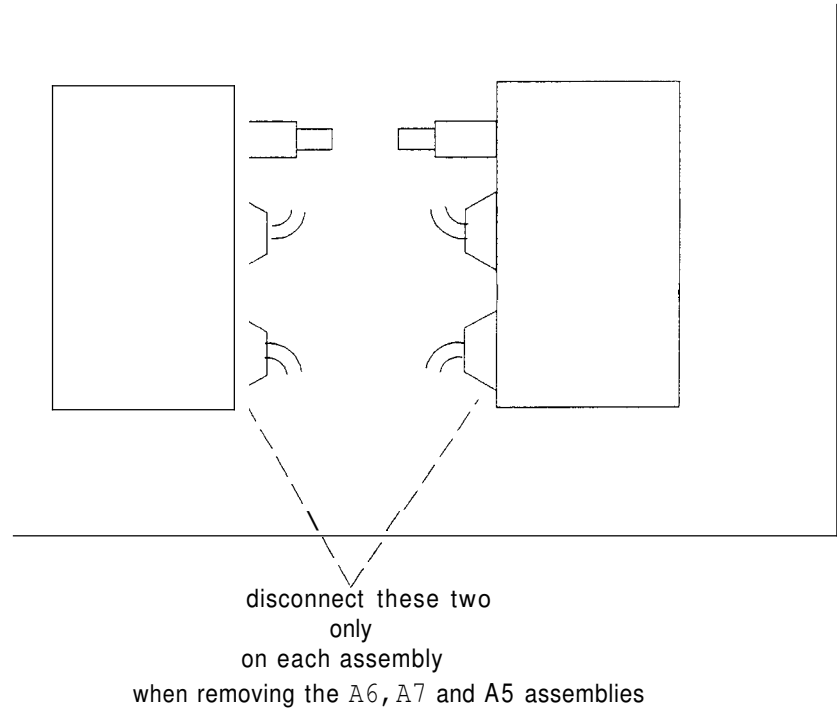

Figure 5-15. Relay box connectors
5. Locate the two SMA connector nuts which are nearest to the front edge of the card cage, one connects to the left relay box and one to the right relay box. See Figure 5-15.